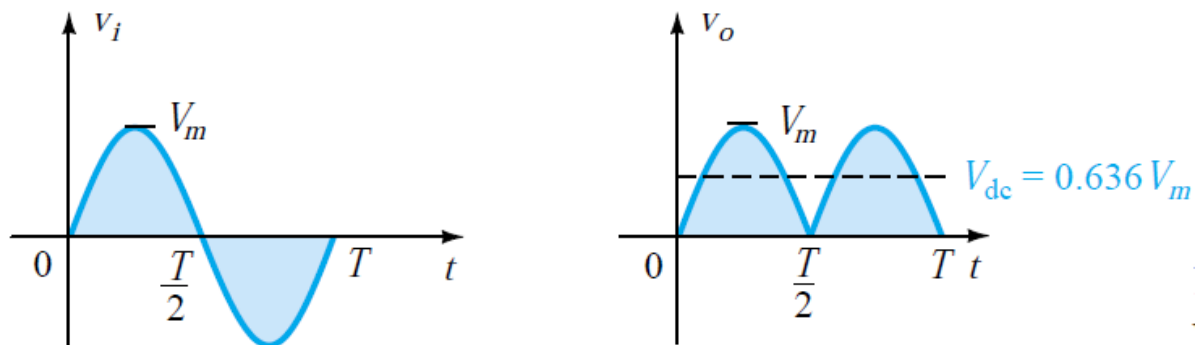

Figure 2.14: Input and output waveforms for a full-wave rectifier.
- Over one full cycle the input and output voltages will appear as shown in Figure 2.14.